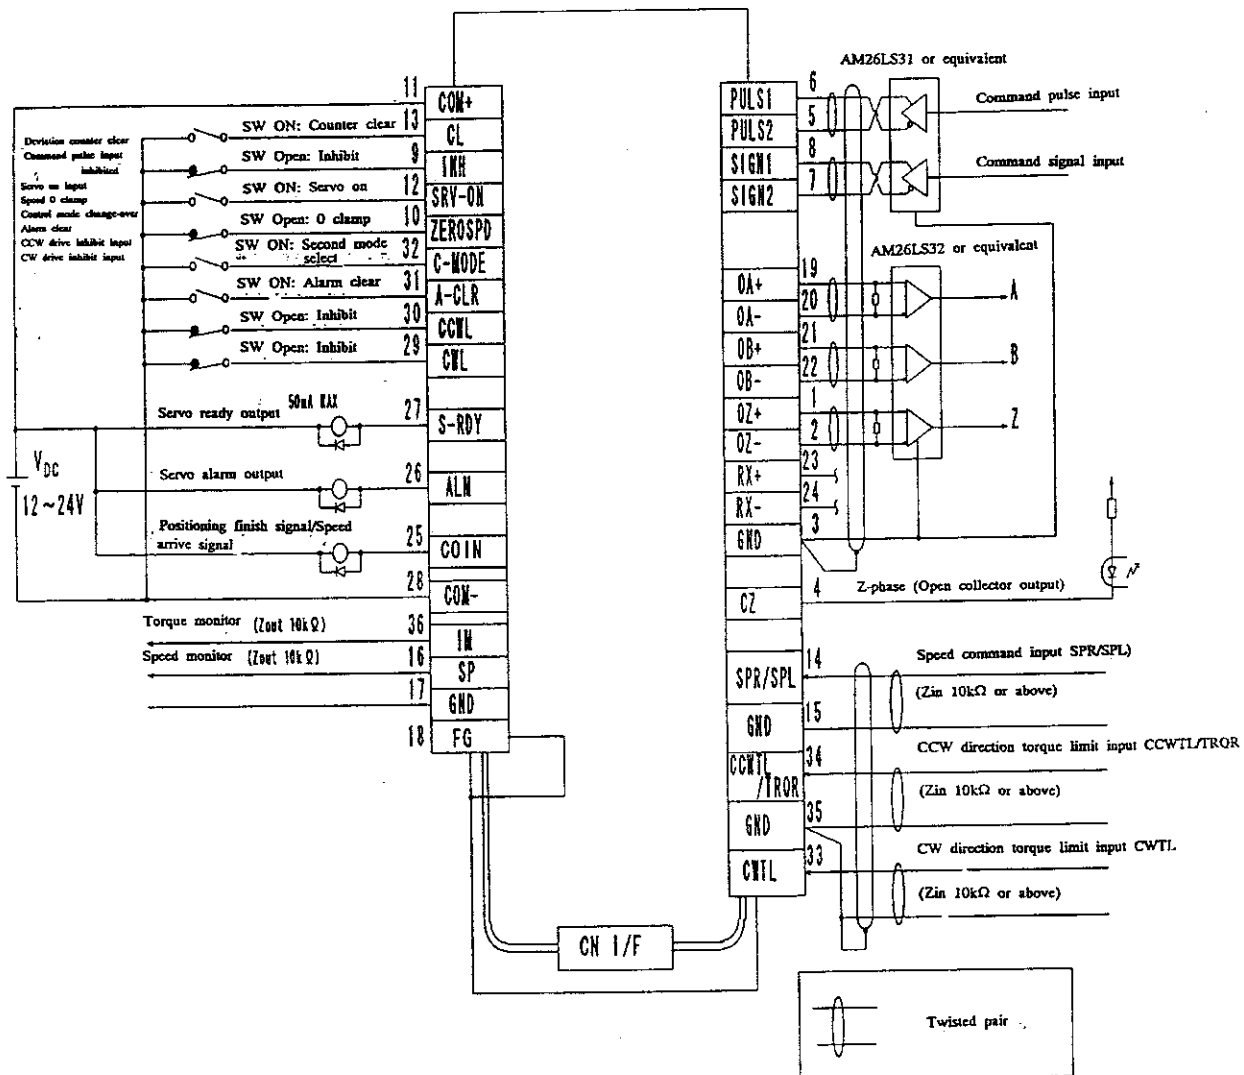

Fig. 5-2 Example of wiring to connector CN I/F
- (1) Please make wiring per Fig. 5-2, "Wiring example to connector, CN I/F". As for the pin arrangement of CN I/F, refer to 13-1 [Connector kit for connecting external equipment] (Page 61).
- (2) Please prepare a power supply for a control signal with DC12-24V, used for external control connected between COM + and COM -.
- (3) Please shorten the wiring of the driver and other equipment as much as possible (3 m or shorter).
- (4) Please separate this wiring from the power lines (R, S, T, U, V, W, \oplus), as much as possible (30 cm or more). Please avoid passing both wires into the same duct or binding them together. It may cause malfunction.
- (5) Please do not apply more than DC 24V or 50mA, to each terminal of the control output (S-RD₁, ALM, COIN), or avoid applying reverse polarity. This may cause damage to the driver.
- (6) If you directly drive a relay with the control output terminals, please install a diode in parallel with the relay as Fig. 5-2 shows. If you do not install a diode, or install it in reverse direction, this may cause damage to the driver.
- (7) As per Fig. 5-2, please use shielded, twisted pair wires for a signal line of CN I/F (analog command input, command pulse input, feed-back pulse output of the encoder etc.). Please ground the shield to the signal ground (GND) of the driver. (Though the shield of other equipment normally open, in case affected by extreme noise, connect shield of both driver and other equipment to frame ground.)
- (8) Frame ground terminal (FG) is connected with the earth terminal (\oplus) in the driver.